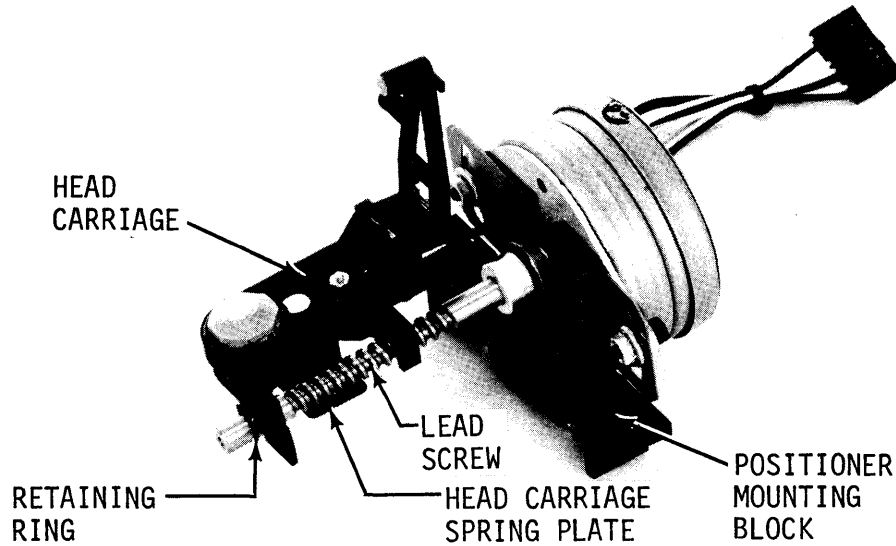

Figure 6-7. Head Carriage Mounting Details
- g. Remove the three screws that hold the head carriage spring plate against the lead screw (see figure 6-7). Remove the spring plate and the head carriage from the positioner.